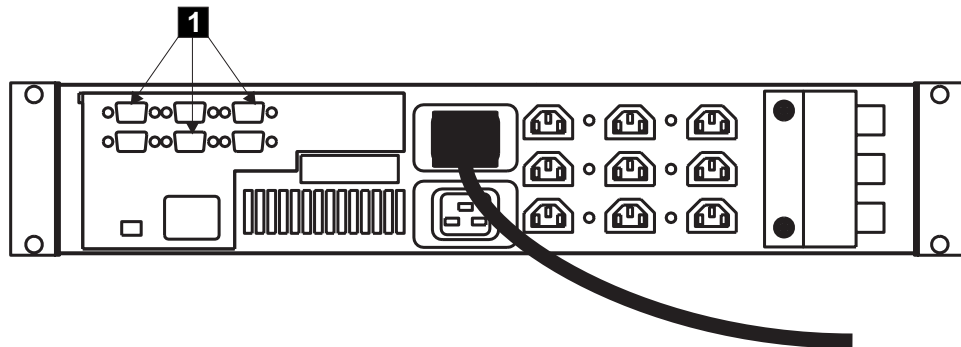

Figure 243. Connecting the 2145 UPS signal cables
4. At the back of the 2145 UPS, connect the signal cables (1 in Figure 243).